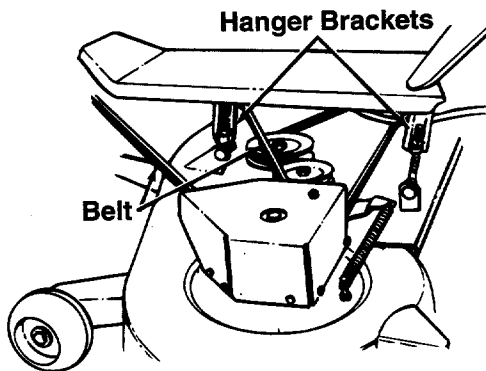

FIGURE 14.
- Attach the four tractor hanger brackets to the deck as follows. The left front tractor hanger bracket goes through the center of the V-belt. See figure 14. Attach the rear hanger brackets first, then the front, using four flat washers and hairpin clips.